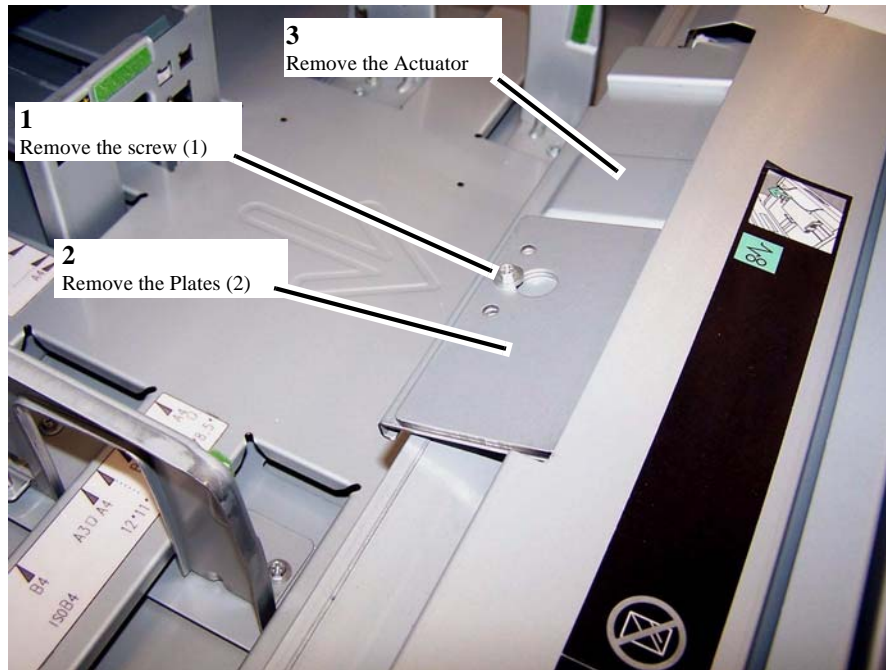

Figure 1
3. Remove the Actuator (Figure 1).